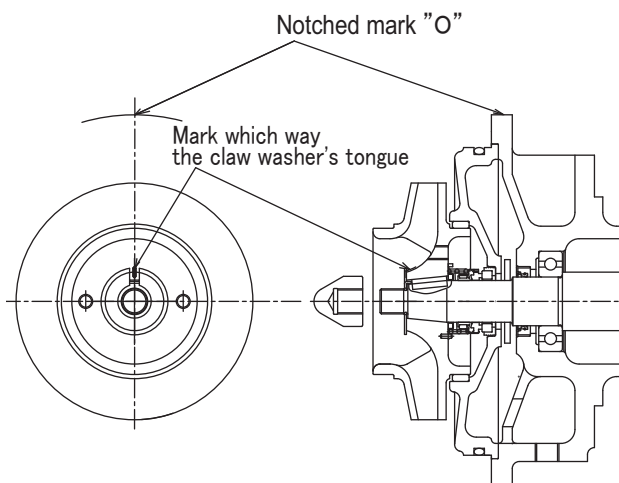

Fig. 1
- 4) Mark the direction of the washer claw on the impeller (refer to Fig. 1).